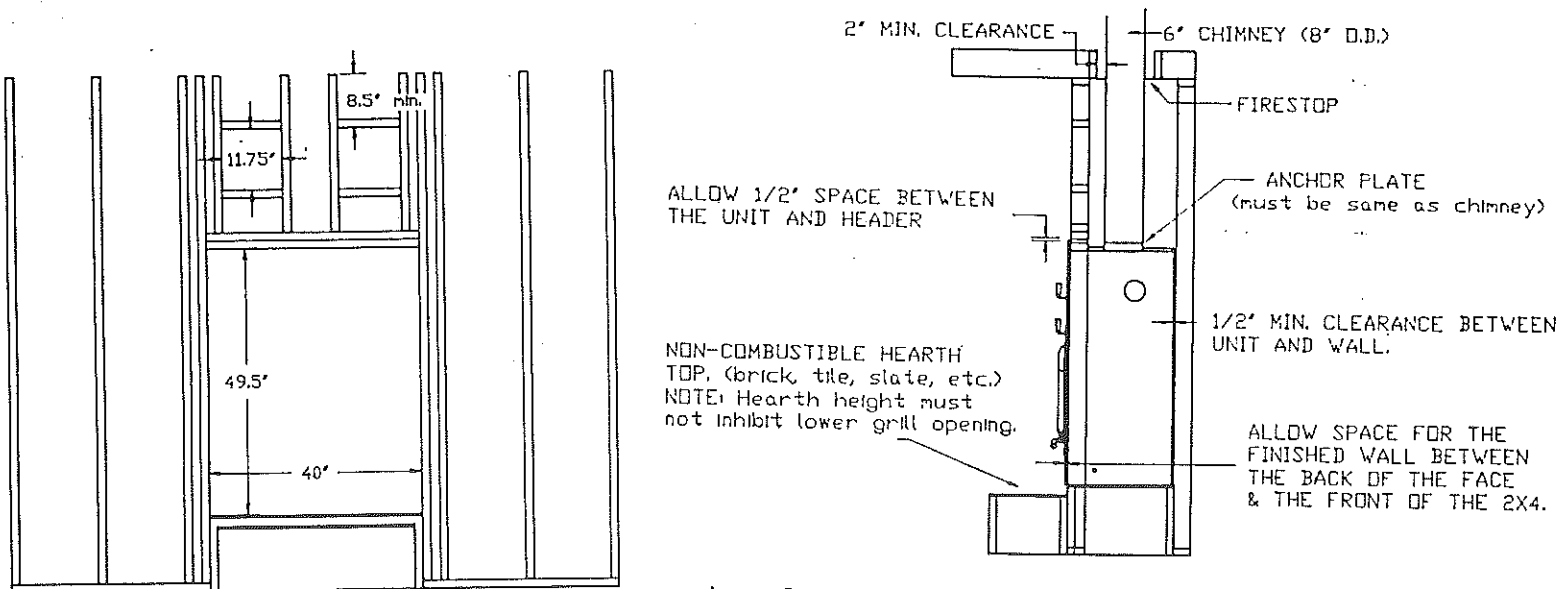

Fig. 8
6. Frame in the fireplace. Maintain the necessary clearances to combustibles. The framing materials should not come in actual contact with the fireplace. See Fig. 8.